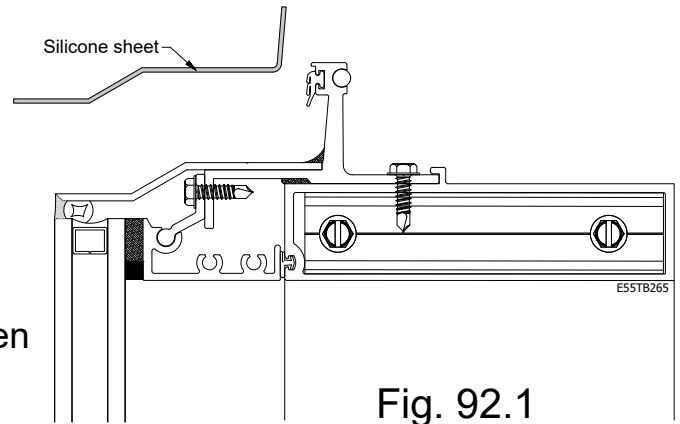

Fig. 92.1
- Step 1: Clean surface around splice area of chicken head and chicken head sill extension using isopropyl two towel wipe. See Fig. 92.1.